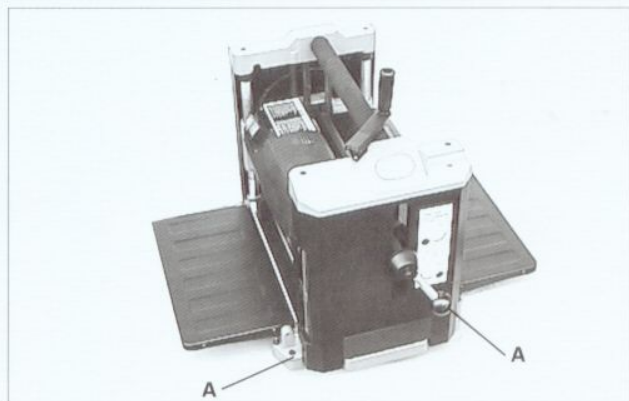

Fig.10
If during operation there is any tendency for the planer to tip over, slide, or walk on the supporting surface, the planer must be secured to the supporting surface using the four holes in the base of the machine, two of which are shown at (A) fig.10.